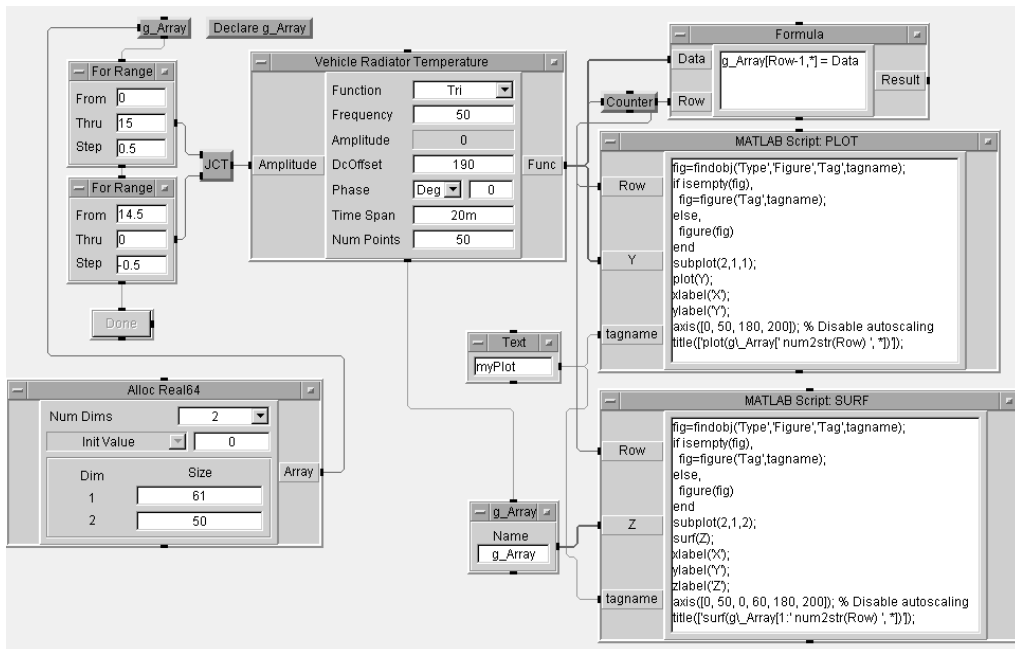

Figure 12.11. Lab 12.5 before running
12. Save this program again; arrange the icons as shown in Figure 12.11.